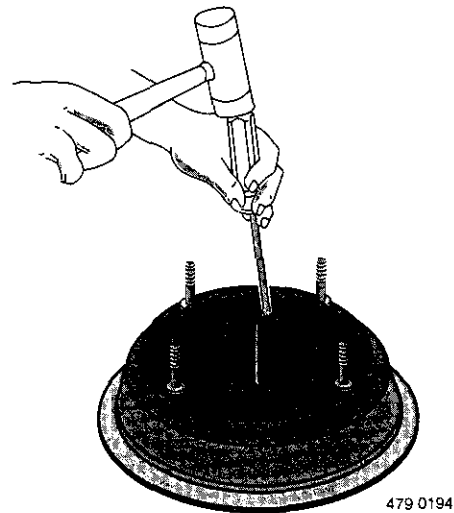

Figure 8
4. Place back half of pump on flat surface and tap out ceramic seat. See Figure 8.